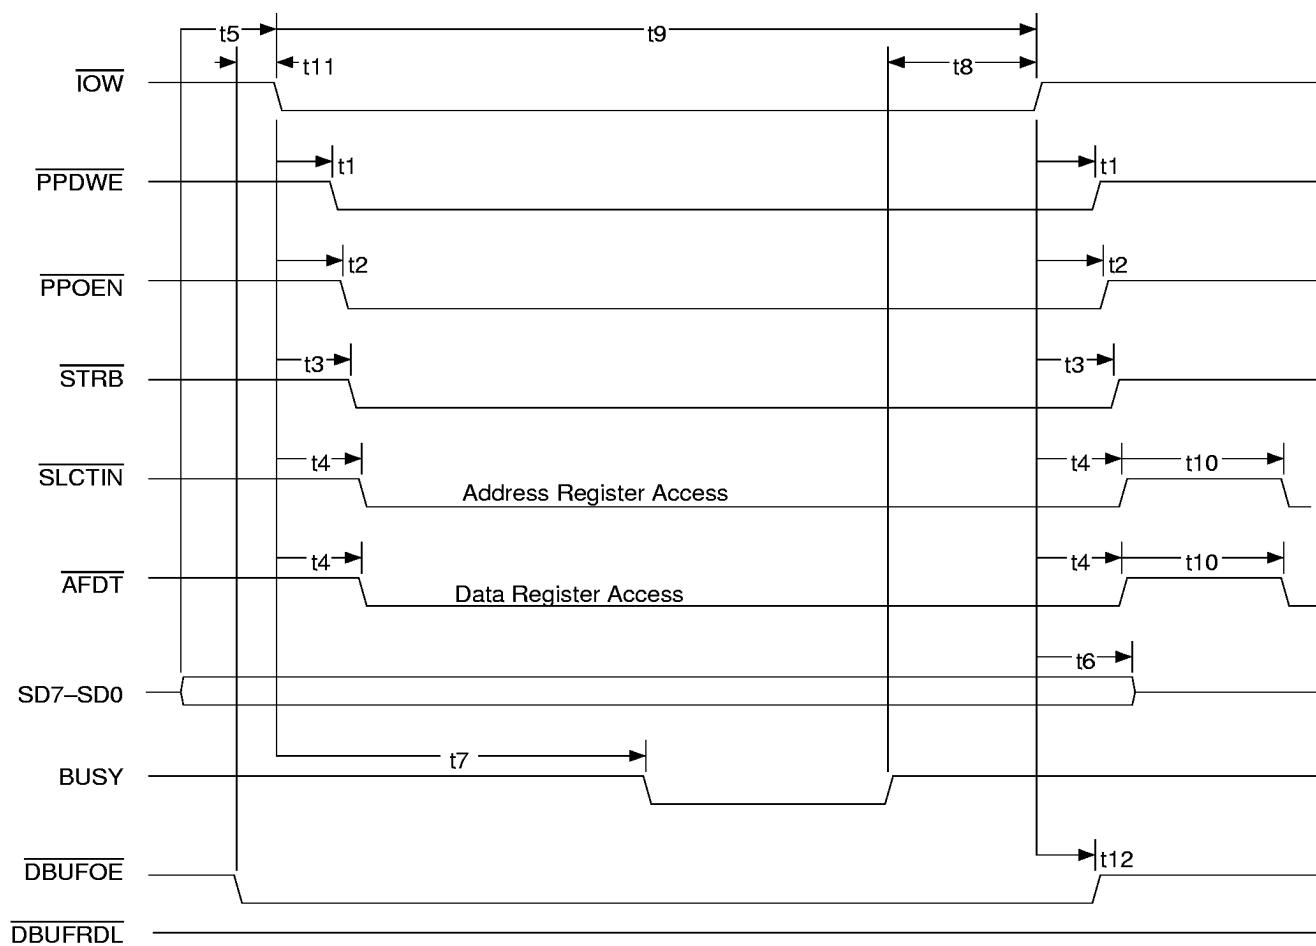

Figure 48. EPP Parallel Port Write Cycle
1. The signal names used in Figure 48 and Figure 49 are the PC/AT Compatible and Bidirectional mode signal names.